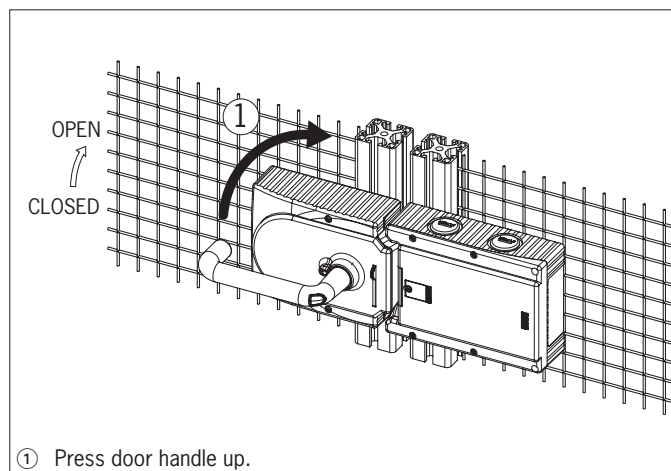
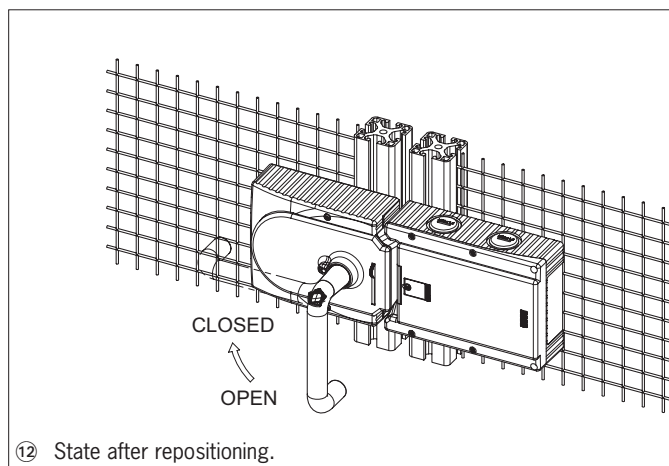

Figure 10: Changing actuating direction, step ①
Figure 15: Changing actuating direction, final state
For mounting steps, see *Figure 9* and *Figure 10* to *Figure 15*.
- The system is mounted the other way around for doors hinged on the left. In other words, the safety door opens by pressing up the door handle (see Figure 10). For this reason the actuating direction of the door handle must be changed (see Figure 10 to Figure 15).